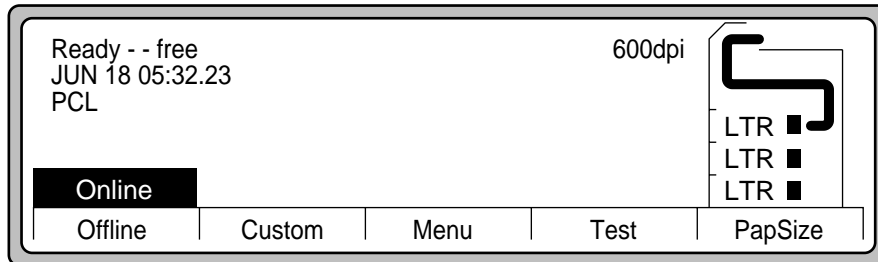
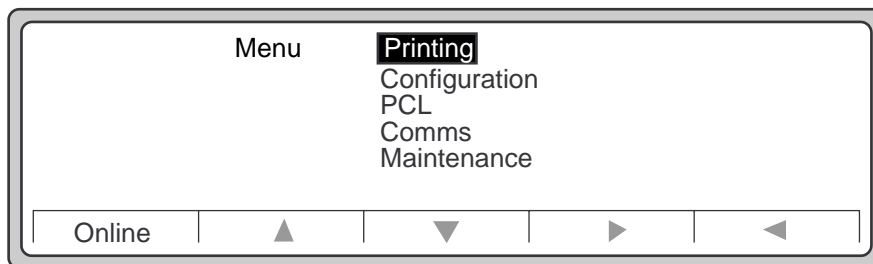

Figure 2-73 Main Screen
Figure 2-80 Menu
1. Press the **left arrow** button to return to the **Main Screen** shown in Figure 2-73.
1. At the **Main Screen** (shown in Figure 2-73), press **Menu**. You will see the screen in Figure 2-80.